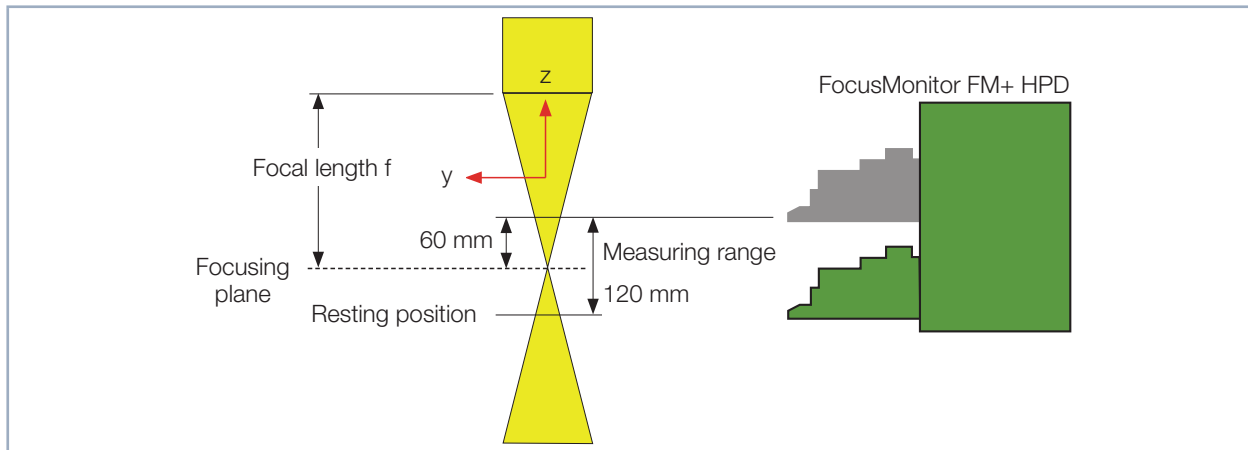

Fig. 7.4: Measuring range of FocusMonitor FM+ HPD
- The horizontal carrier will move to the position 60 mm above its resting position (see Fig. 7.4 on page 20) without a rotated FS³.